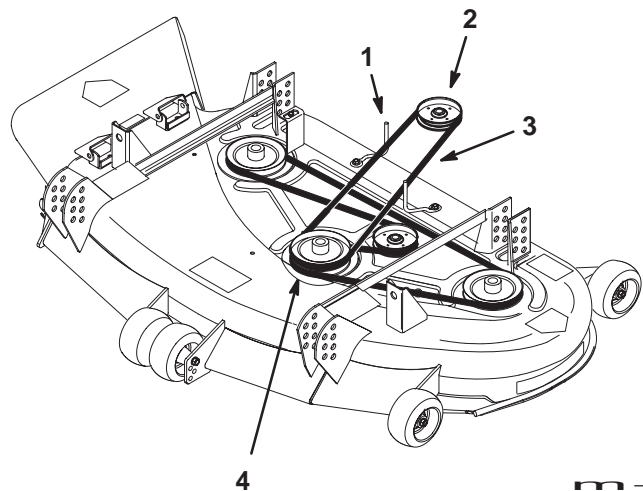

Figure 49
4. Remove the worn drive belt (Fig. 49).
5. Install the new drive belt onto the traction unit drive pulley and the top groove of the center spindle pulley (Fig. 49).